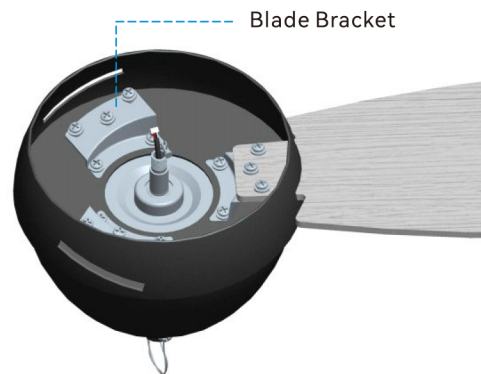

Fig 2.1
2.1 Locate 9 blade attachment screws and washers in the hardware pack. Slide the blade through the lamp cover and align three blade holes with the screw holes of the blade bracket and fasten blades with the screws and washers as shown in Fig 2.1.